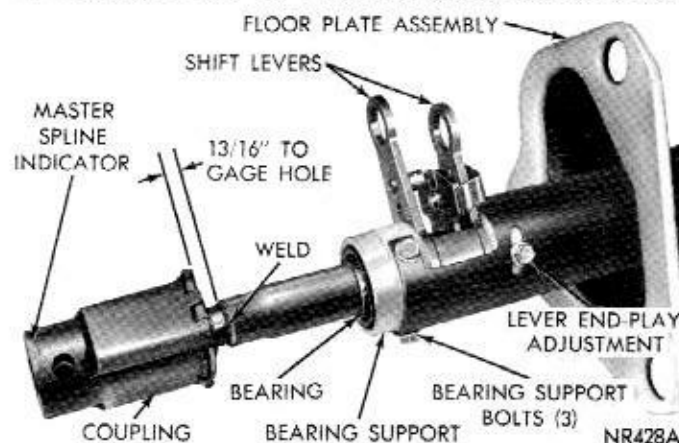

Fig. 31—Shaft Coupling Adjustment
(3) With front wheels in straight ahead position and master splines on wormshaft and coupling aligned, engage coupling with wormshaft and install the roll pin. **CAUTION: Do not apply end loads to steering shaft.**
(4) Hold column assembly with bracket against the instrument panel support. Install but **do not tighten** the two upper bracket nuts.
(5) **Center steering shaft coupling at midpoint of its travel.** This is accomplished by moving column and bracket assembly fore and aft in the instrument panel support so dimension between top of coupling and center of gauge hole is 13/16 inch (Fig. 31). Tighten the two upper bracket nuts to 110 inch-pounds. Attach electrical ground wire to one of the rear mounting studs.
(6) Position floor plate over floor pan opening, centering it around the column, then install and tighten retaining bolts. Slide "O" ring down the jacket and into recess in floor plate, position retaining plate over "O" ring and secure with the two